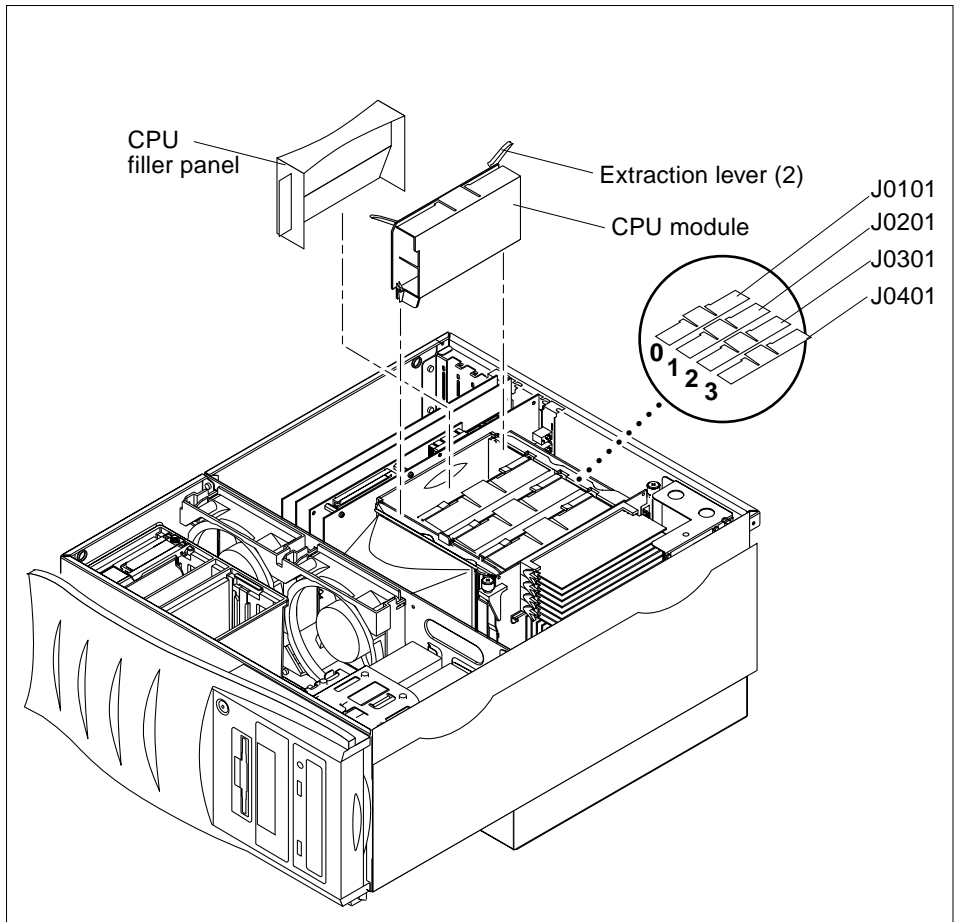

FIGURE 9-1 Removing and Replacing a CPU Module
3. Remove a CPU module as follows (FIGURE 9-1):
1. **Replace a CPU module as follows (FIGURE 9-1):**